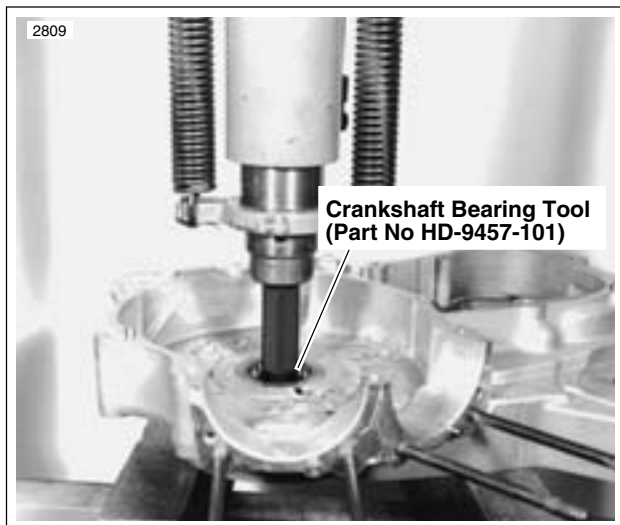

Figure 3-80. Sprocket Shaft Outer Race Removal
- See Figure 3-80. Use CRANKSHAFT BEARING TOOL (Part No. HD-94547-101) to remove sprocket shaft outer races.